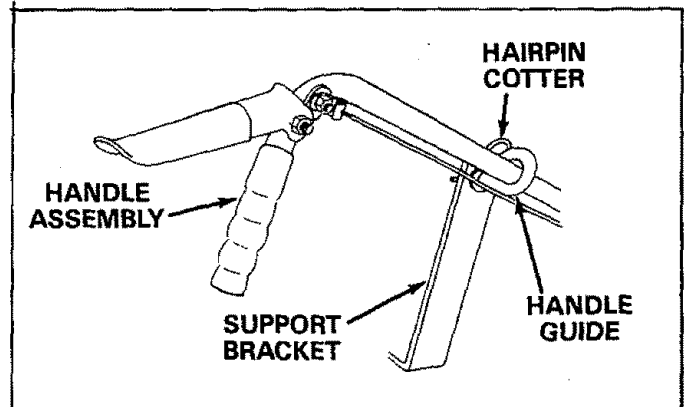

FIGURE 32
5. Refer to figure 32 below and remove hairpin cotter from end of handle guide to release handle assembly from tractor.